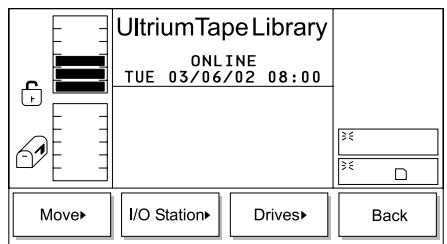

Figure 180. Command Menu
1. From the Main Menu's initial screen, press the button below the **Command** softkey. The Command Menu displays (see Figure 180).